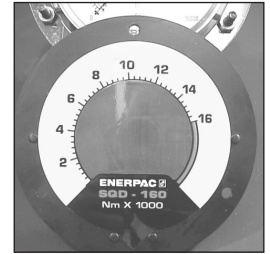

Figure 11
3. Insert new overlay (remember to verify correct overlay to the Enerpac torque wrench being used) onto the flange, aligning the overlay with the dimples on the back of the flange (see Fig. 11).